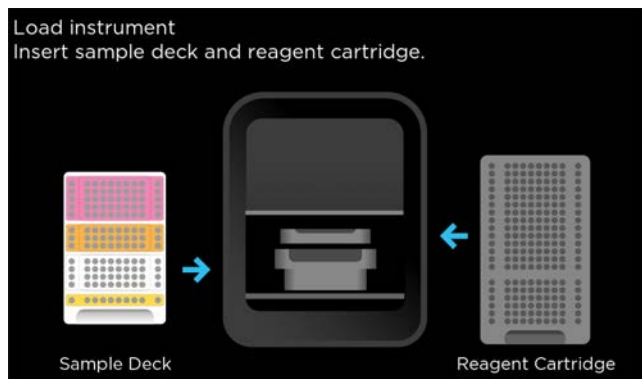

Figure 10. Insert sample deck and reagent cartridge.
4. Insert the reagent cartridge, followed by the sample deck (without the sample deck stand) into the MagicPrep NGS instrument according to the prompt (Figure 10). Insert the sample deck and the reagent cartridge completely until the part ‘clicks’ in place and the image disappear from the screen. Close the door.